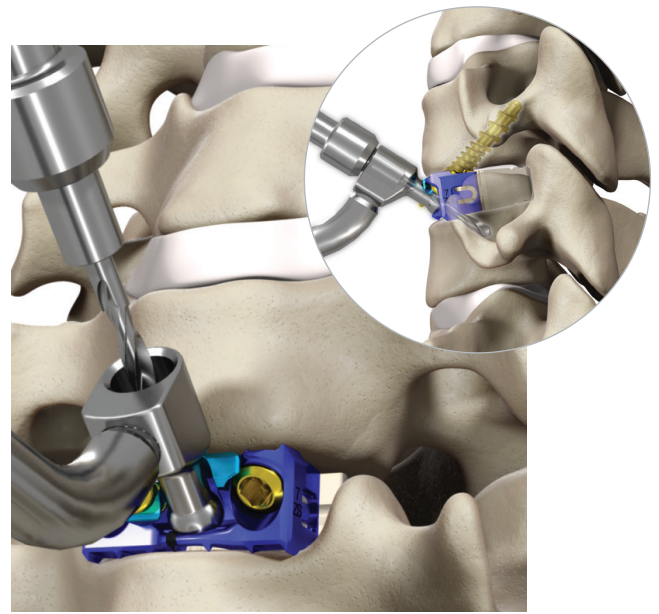

Figure 59
- The fixed angle guide or variable angle guide allows the awl/drill (straight, flexible, or U-joint options) to prepare for the midline screw hole. Seat the guide tip into the medial screw hole. Place the awl/drill through the selected drill guide until the positive stop contacts the guide. The awl/drill will create a pilot hole 6 mm deep. Intra-operative imaging should be used to verify awl/drill position and to determine the appropriate screw length (Figure 59).